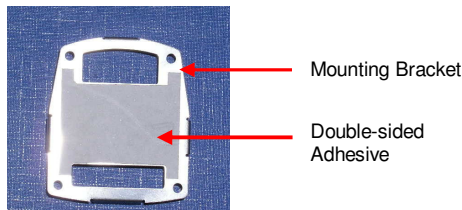

Figure 1: Front View - Mounting Bracket
1. Remove the protective layer from the double-sided adhesive on the back of the mounting bracket (Figure 1).